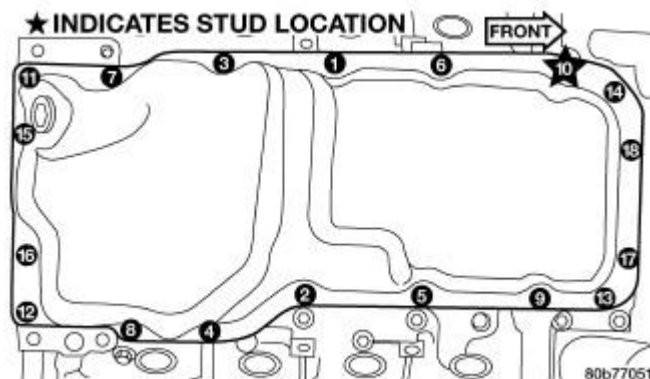

Fig. 185: Oil Pan Tightening Sequence
16. Tighten the oil pan bolts to 15 N.m (11 ft. lbs.) in the sequence shown in **Fig. 185**.